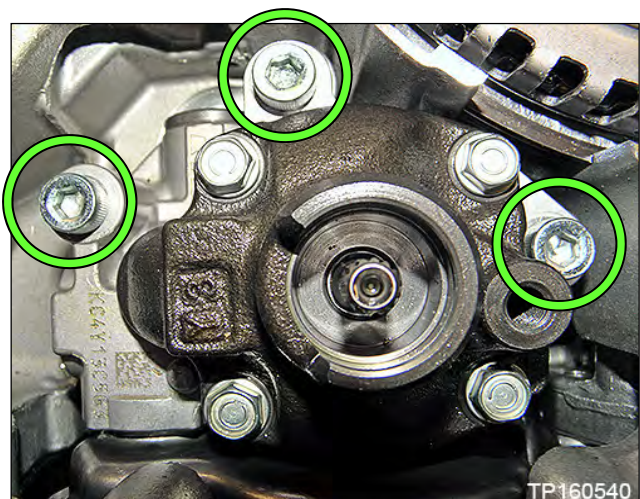

Figure 51
- b. Remove the three (3) oil pump Allen®-head bolts, and remove the oil pump (Figure 51).